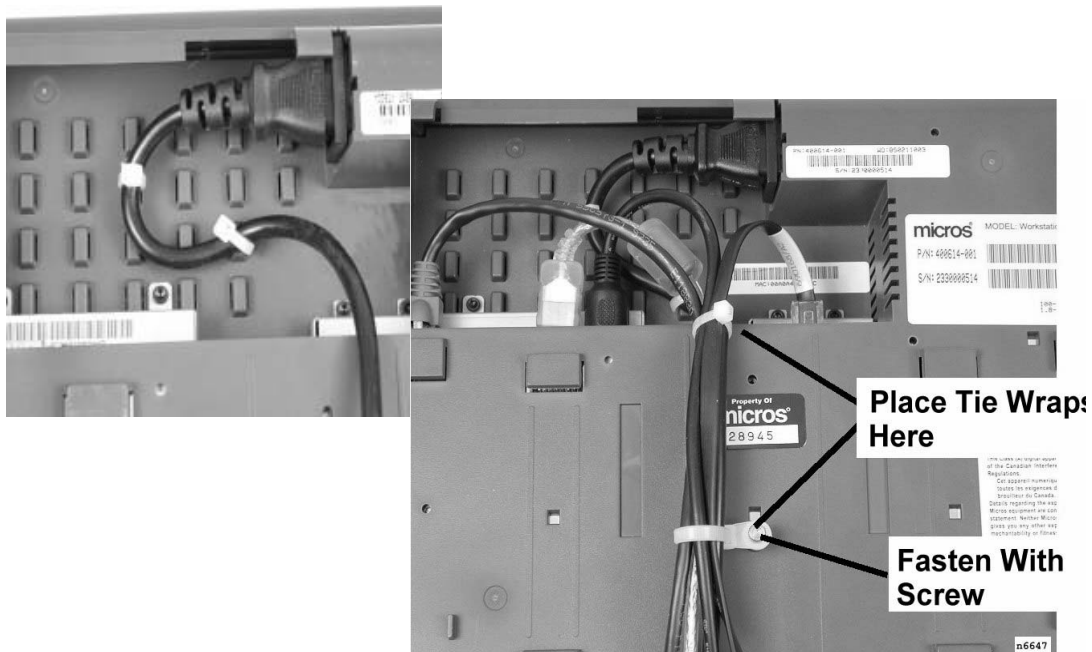

Figure 3-1: Securing the AC Power Cable and Bundling the Peripheral Cables
1. Attach the AC Power cable to the AC input connector. Secure it to the 'cable cleats' with a pair of tie wraps as shown on the left side of Figure 3-1. The AC cable is somewhat heavier than most peripheral cables and will serve as the 'strength member' for the entire bundle.
2. Connect each peripheral cable to the appropriate I/O connector. Bundle each peripheral together with the AC power cable and attach two tie wraps to the bundle as shown on the right side of Figure 3-1.
Figure 3-1 shows two tie wraps. The tie wrap shown in the upper portion of the illustration near the IO panel must be installed as shown to prevent the cable bundle from interfering with cut-outs in the stand when you attach it. The second tie wrap is supplied with the stand and must be fastened to the case with the screw supplied.